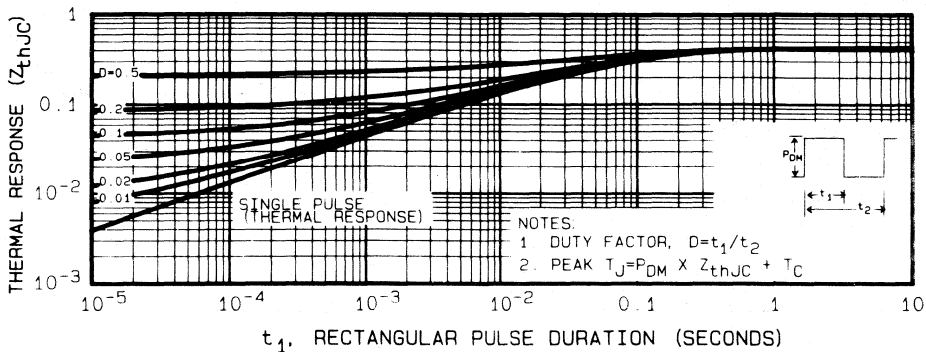

Fig. 5 - Maximum effective transient thermal impedance, junction-to-case vs. pulse duration.
① Repetitive Rating: Pulse width limited by maximum junction temperature (see figure 5) Refer to current HEXFET reliability report
③ Pulse width $\leq 300 \mu s$; Duty Cycle $\leq 2\%$
② @ $V_{DD} = 50V$, Starting $T_J = 25^\circ C$,